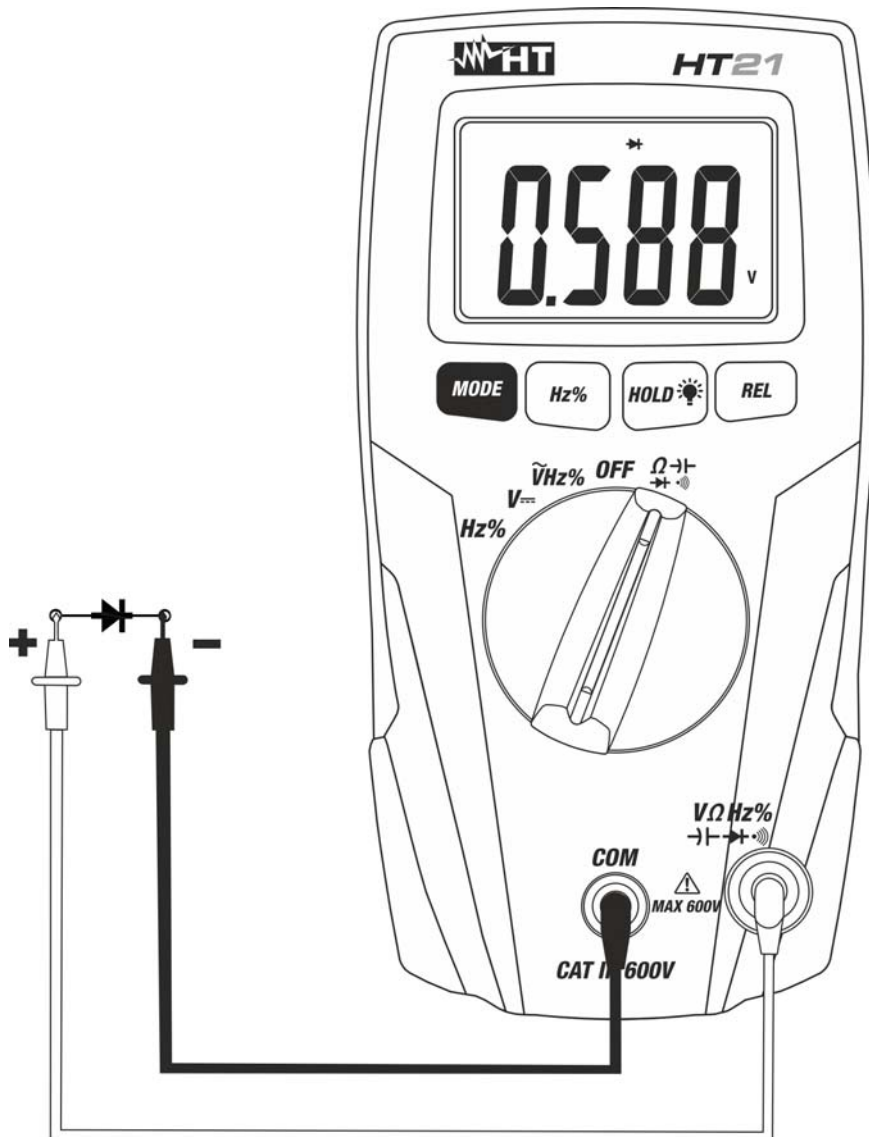

Fig. 5: Using the instrument for Diode test
4. Connect the test leads to the diode under test observing the proper polarities indicated in Fig. 5. The threshold voltage value expressed in mV under this situation is displayed